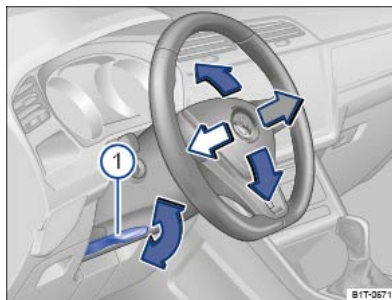

Fig. 77 Below the steering wheel in the steering column trim: lever for mechanical adjustment of the steering wheel position.
- Push down the lever ⇒ Fig. 77 ①.
- After adjusting the steering column, always move lever \Rightarrow Fig. 77  up so that it engages securely. This prevents the steering column from moving spontaneously while the vehicle is in motion.